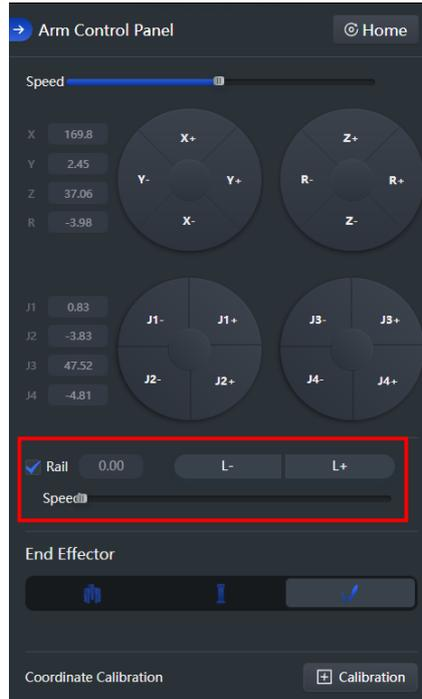

Figure 5.53 Enable sliding rail
Step 1 Enable **Rail** on the arm control panel, as shown in Figure 5.53.